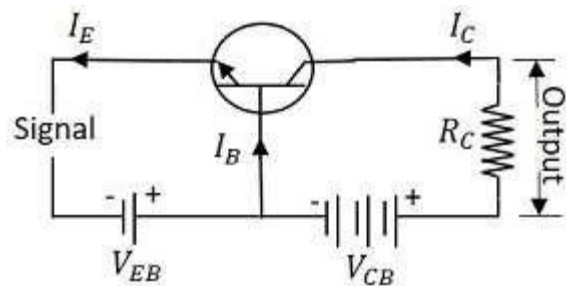

Fig.4: NPN Transistor in CB Configuration
- In CB Configuration, the base terminal of the transistor will be common between the input and the output terminals as shown by Fig.4. This configuration offers low input impedance, high output impedance, high resistance gain and high voltage gain.